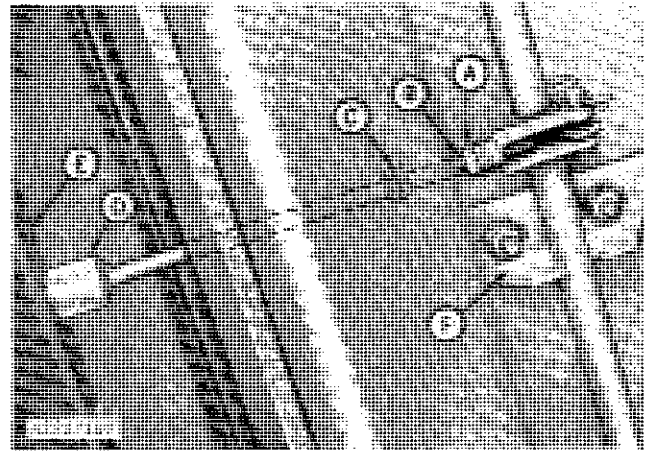

Fig. 121-Adjusting Actuating Rod
3. Loosen lock nut "A" on actuating rod "B" (Fig. 121).
4. Raise row unit to maximum height and turn adjusting nut "C" on actuating rod until stop "D" lightly rests against row unit bracket "E" (Fig. 121). Adjust stabilizer brackets "F" on control rod, to maintain rod in a straight line, the length of the header.[†]
5. Tighten lock nut "A" and lower row unit. Repeat procedure for each row unit and retain pin for future use (Fig. 121).